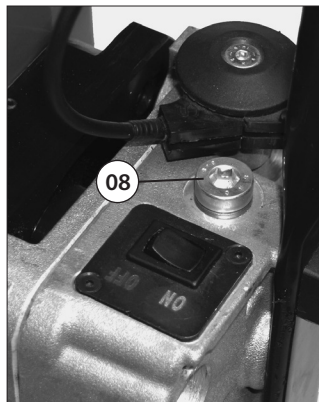

FIG. 22a
*(Ref. to Fig. 22a and 22b):*
- Remove the cap with the magnetic insert (24).
- Remove the oil filler cap (08).
- Clean the cap (24) (see § 14.1.2).
- Replace the oil filler cap (08).
#### 14.1.1) **Topping up oil** (Ref. to Fig. 22a and 22b)